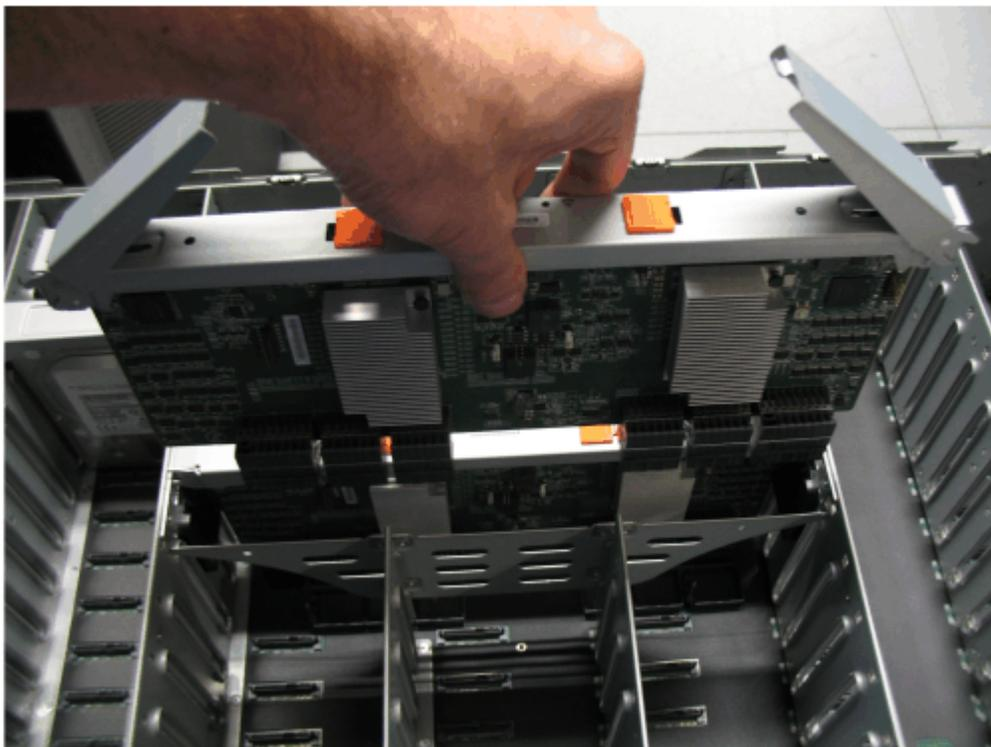

Figure 115. Remove the secondary expander module
4. Lift the secondary expander module carefully out of the enclosure, as shown in Figure 115 on page 107.